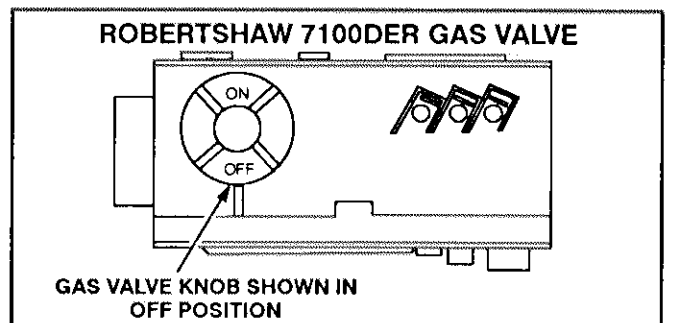

FIGURE 3
- 6- On Robertshaw 7100D and Honeywell VR8204 gas valves, turn knob on gas valve clockwise  to **OFF**. Units with Robertshaw 7200 gas valve, depress lever and move to **OFF** position. Do not force. See figures 3 through 5.
- 7- Wait fifteen (15) minutes to clear out any gas. If you then smell gas, **STOP!** Immediately call your gas supplier from a neighbor's phone. Follow the gas supplier's instructions. If you do not smell gas go to next step.